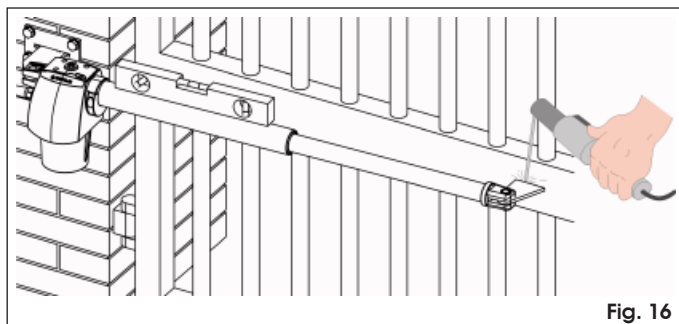

Fig. 16
9. Bring the operator pipe to the leaf until the front bracket rests against the leaf (Fig. 16).
10. Using a level, check if the operator is perfectly horizontal and provisionally secure the front bracket with two weld spots (Fig. 16.).